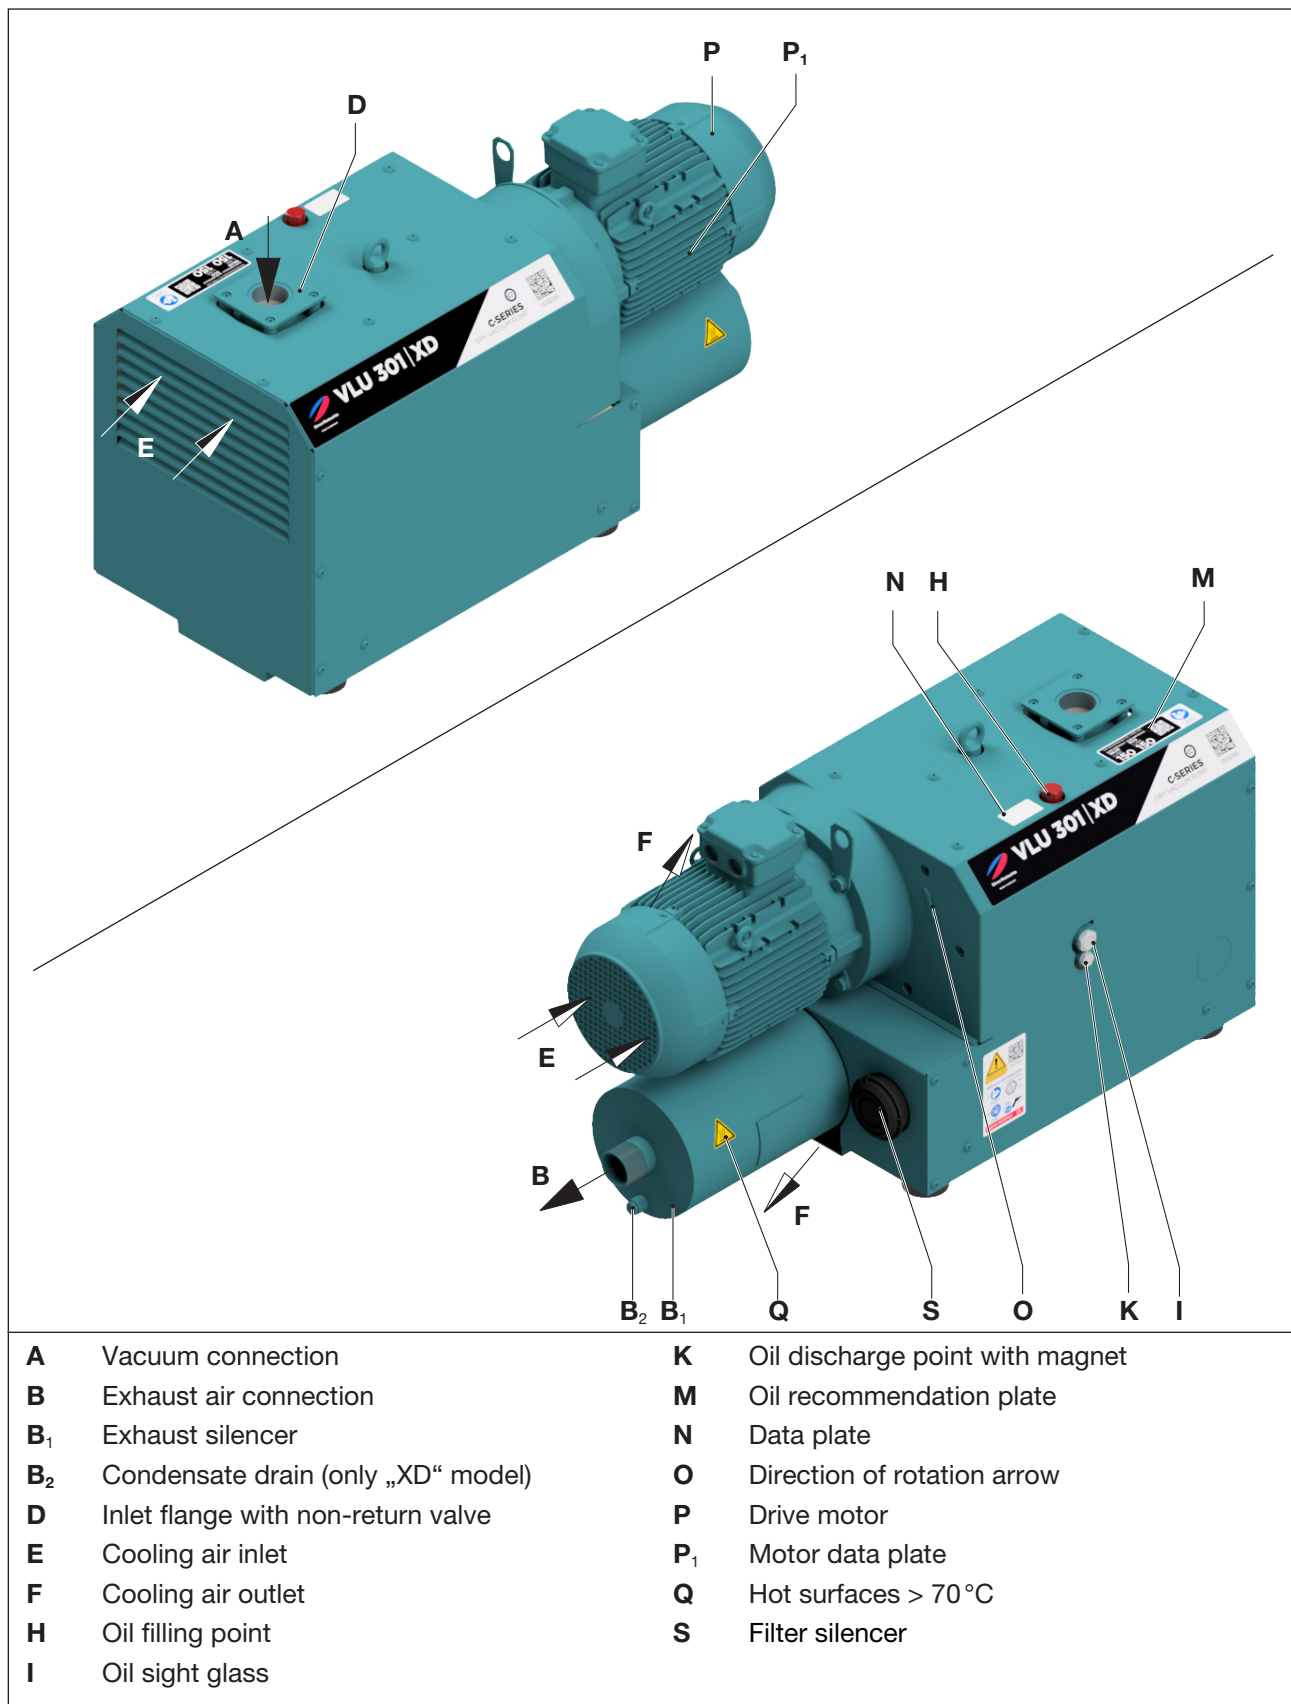

Fig. 2 Vacuum pump C-VLU 301 XD (CD version is identical).
The C-VLU 301 have a connection flange on the inlet side and an exhaust silencer (Fig. 2/B,) on the pressure side. The intake air is cleaned by a mesh filter. An integral non-return valve prevents the evacuated system from being ventilated after the pump has stopped.
The C-VLU 301 are enclosed in an insulation hood. In order to dissipate compression heat, the cooling air is sucked through between the compressor and the hood using a drum fan that sucks in the fresh cooling air (Fig. 2/E) and discharges the heated air out of the cooling air outlet (Fig. 2/F). It is driven via a coupling by a flanged, three-phase standard motor.
- Oil filling point (Fig. 2/H), oil sight glasses (Fig. 2/I) and oil drain (Fig. 2/K) must easily be accessible.
- Remove the blind plug/adhesive film on the vacuum connection (Fig. 2/A) and exhaust air outlet (Fig. 2/B).
- Connect the pipes with the vacuum connection (Fig. 2/A).
- The exhausted air can be blown out through the exhaust air outlet (Fig. 2/B) on the exhaust silencer (Fig. 2/B1) or led away using a hose or pipeline.
- Check the lubricating oil level at the oil sight glass (Fig. 2/I).and top up if necessary.